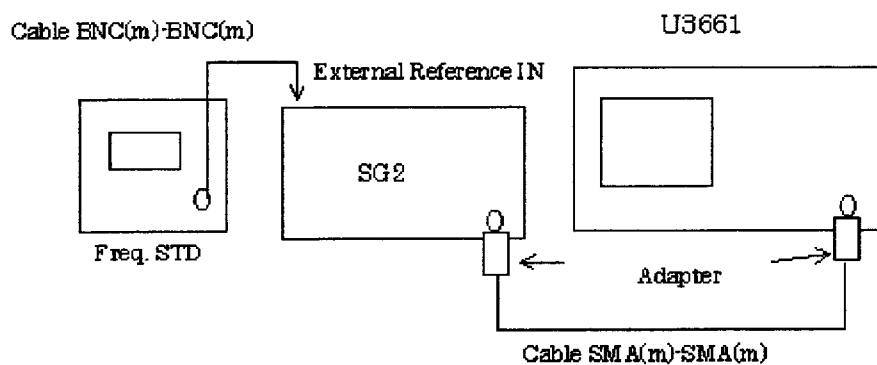

Figure 3-13 Setup of a Frequency Readout Accuracy and Frequency Counter Marker Test
1. Connect equipment as shown in Figure 3-13.